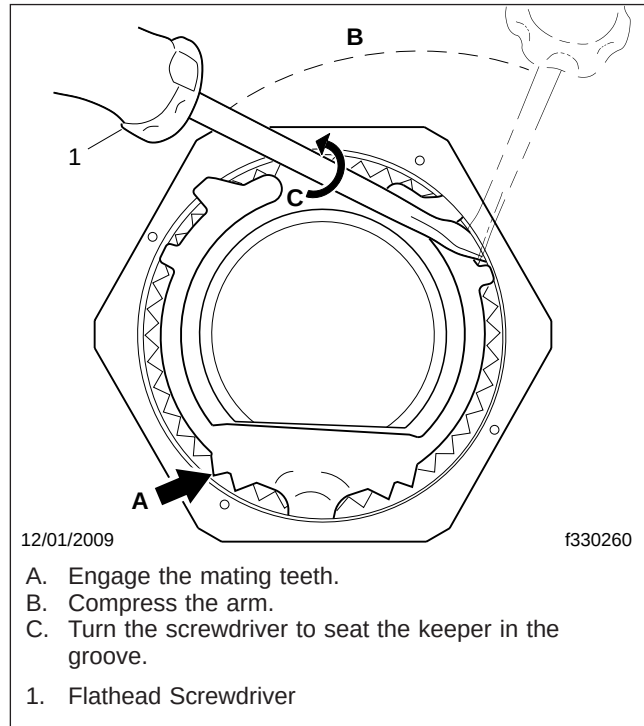

Fig. 4, Installing the Keeper
- 3.2 Use a flathead screwdriver to carefully compress and guide each arm past the lip and into the undercut groove of the nut as shown in Fig. 4. To secure the keeper it may be necessary to nudge the arms into the groove.
- 5.2 Use a flathead screwdriver to carefully compress and guide each arm past the lip and into the undercut groove of the nut as shown in Fig. 4. To secure the keeper it may be necessary to nudge the arms into the groove.